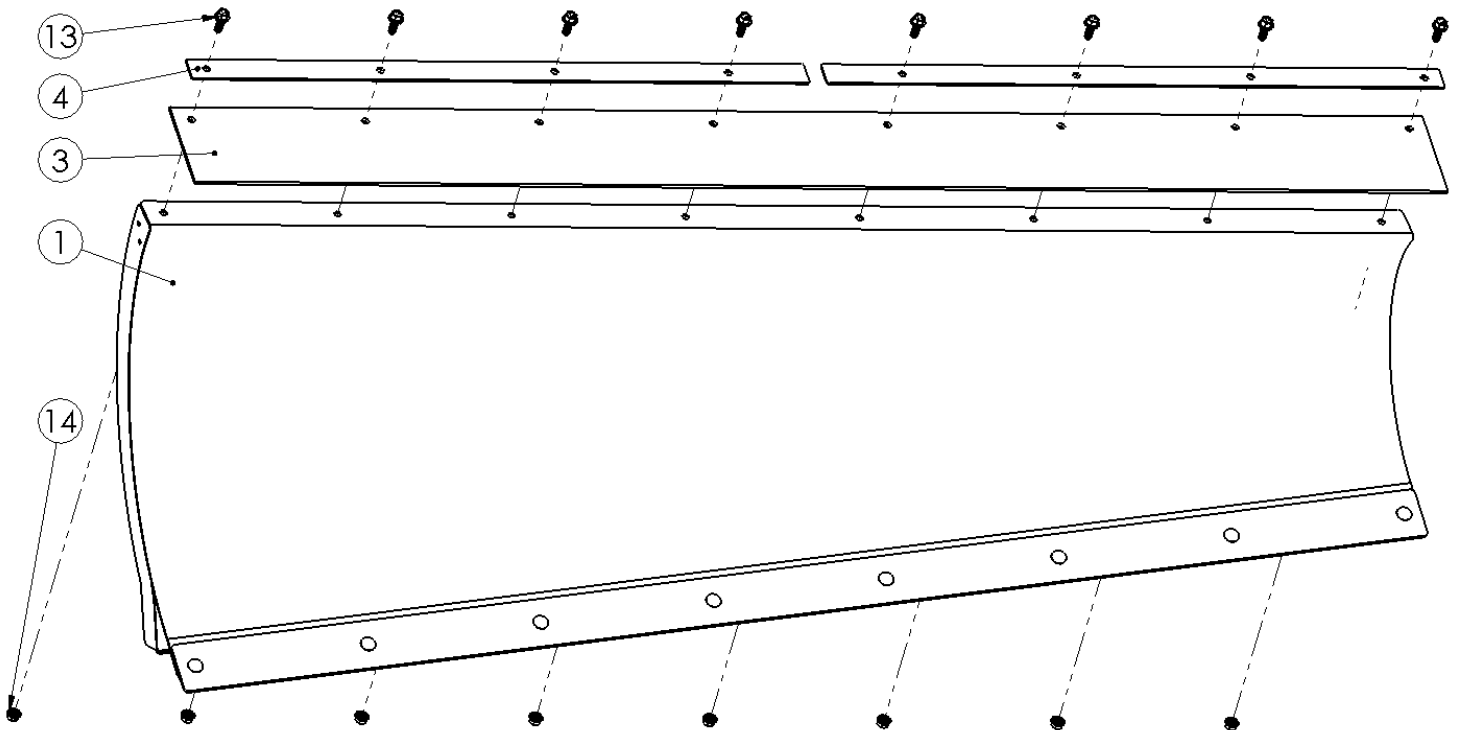

Figure 2
2) Install the 72" Rubber Flap and 2pc Rubber Flap Hold Down Bars as shown in Figure 2.